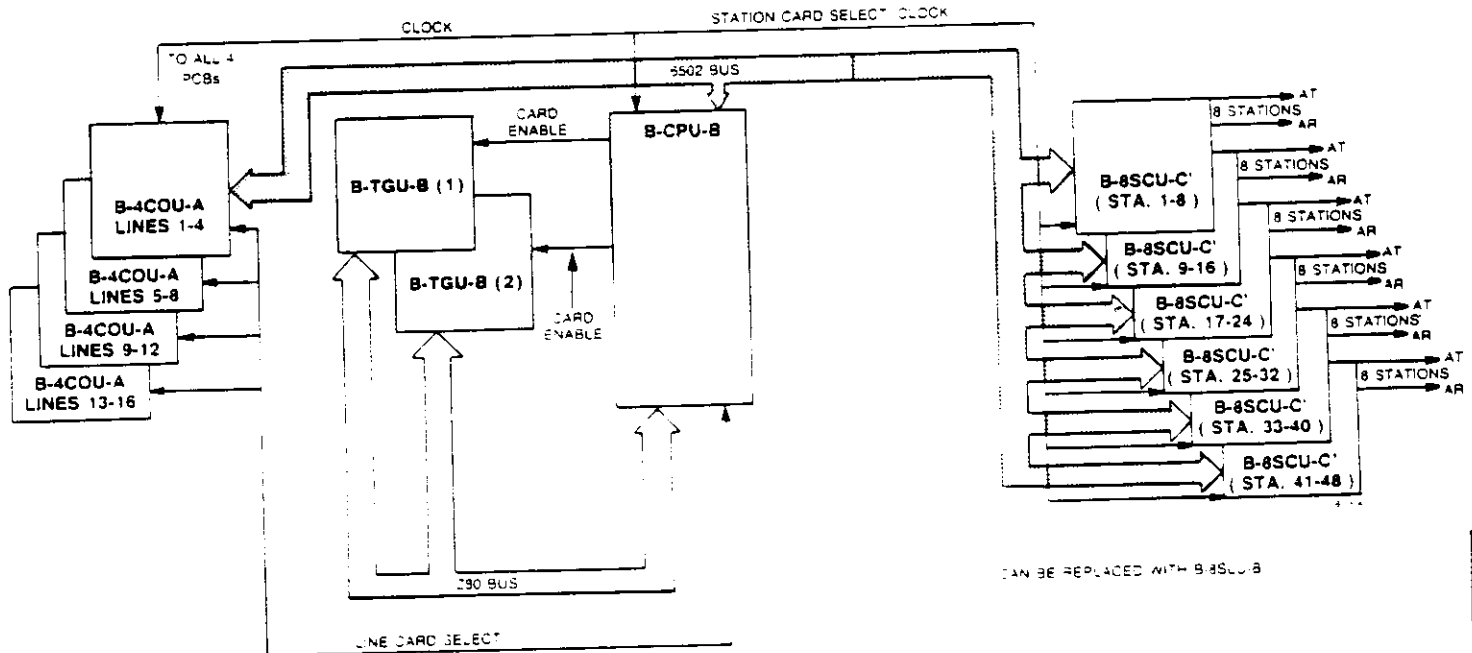

Figure 8-3 DATA CONNECTIONS, EK-824/1232/1648
2.20 Data communication between the PCBs in the KSU is over two backplane data busses (Figure 8-3): the Z80 Data Bus and the 6502 Data Bus.